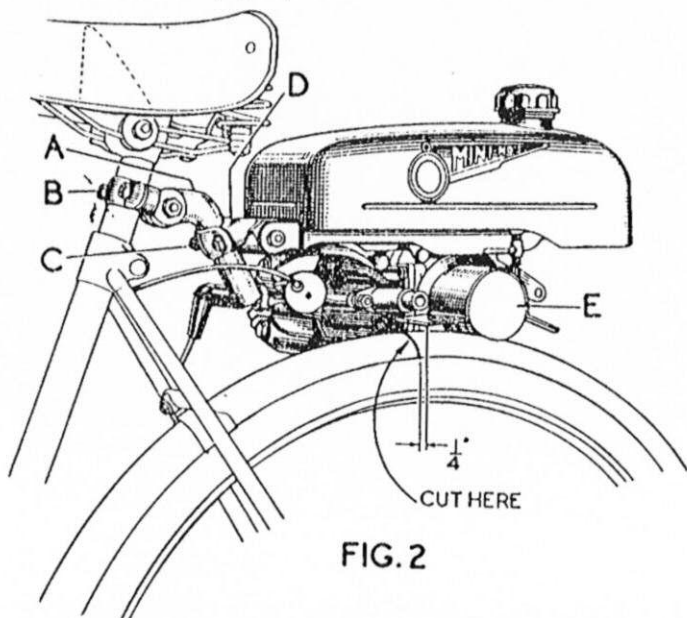

FIG. 2
- (1) Rest the unit on the rear mudguard (if there is a carrier or other fitment over the rear wheel this must first be removed). Fasten the elbow lug "A" on to the saddle pillar as low as possible, but do not completely tighten the clamp nuts "B." (Fig. 2.)
- (3) Make a mark on the mudguard at a distance of about  $\frac{1}{4}$  in. forward of the roller mudguard "E" remove the unit and cut the mudguard in two halves at the mark, allowing the rear portion of the cut mudguard to swing backward, leaving a space between the two ends. (Fig. 2.)